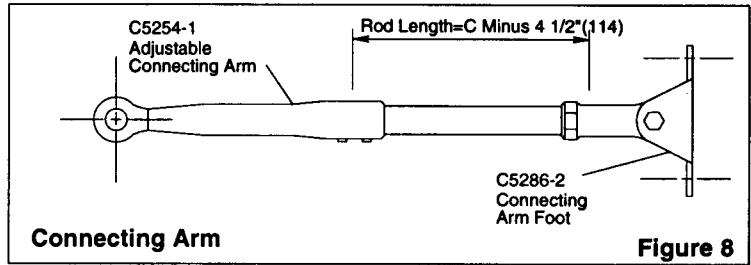

Figure 8
- Select adjustable connecting arm length from Chart on page G700.6, dimension "C" minus $4\frac{1}{2}$ ". Cut and attach to power arm. (Figure 8)